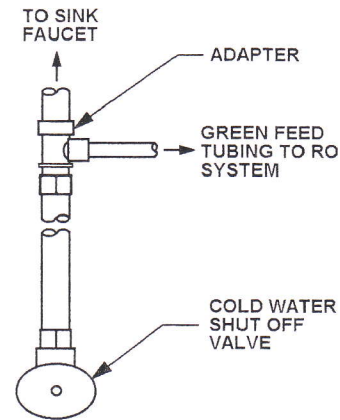

Figure 3. FEED WATER CONNECTIONS
- (4) An adapter is included with the drinking water system and must be installed to provide feed water (Figure 3).